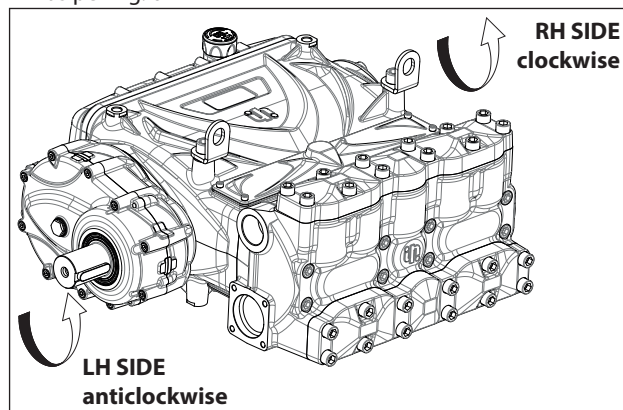

Fig. 6
- as per Fig. 6
Observing the pump facing the manifold side, the pump shaft must have the PTO coupling on the LH side (see Fig. 6).